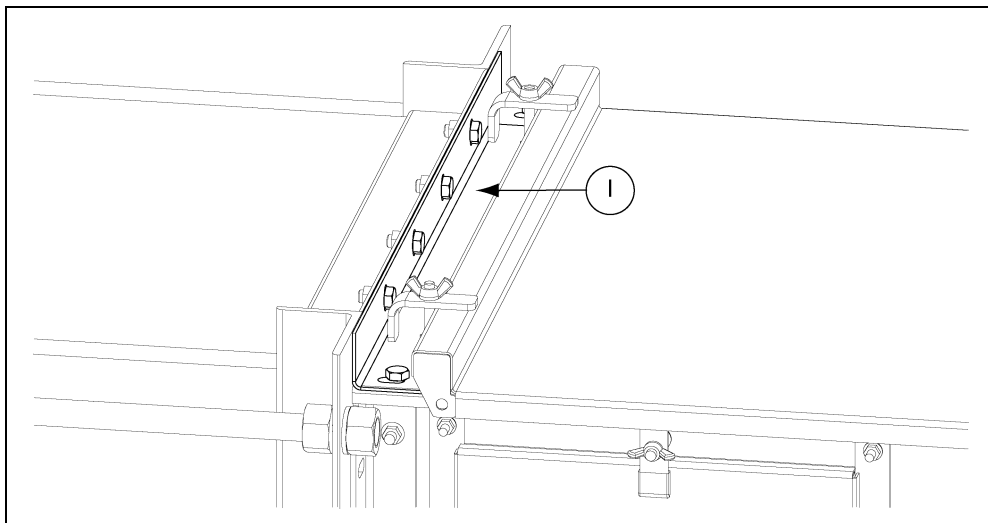

Figure 4E
5. A special cover channel (I) is provided with the tail as shown in Figure 4E.